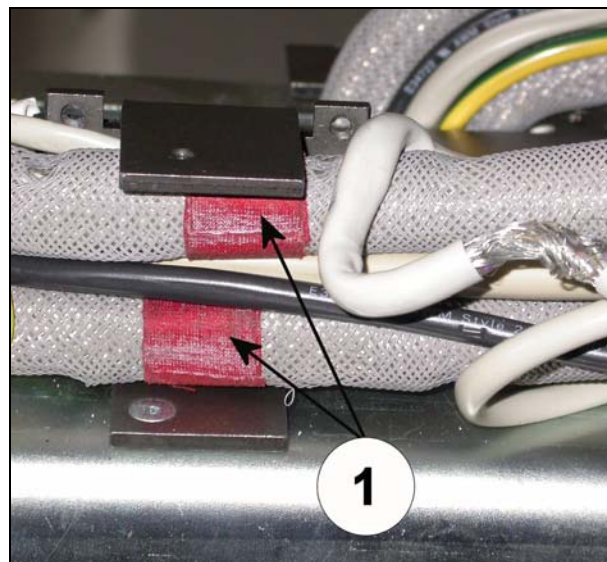
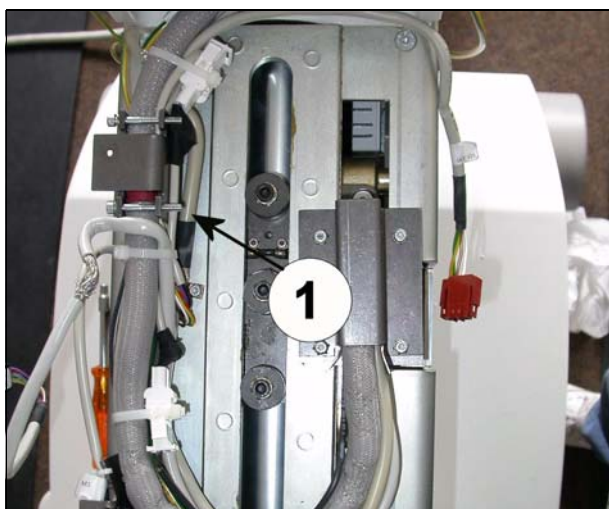

Fig. 7
Fig. 8
- The two thick cables for the cable module have a red mark running round them (1/Fig. 7). Insert and secure these cables together with the other cables of the cable module in the clamping point (1/Fig. 8).